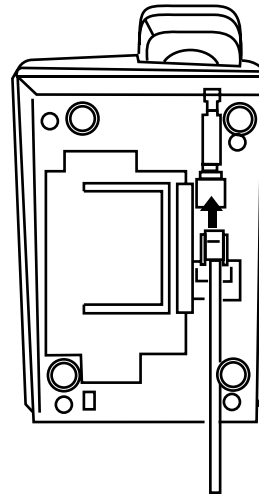

Fig. C.3.3
- (4) After installing the connection cable to the telephone set, extend the connection cable like Fig. C.3.3.